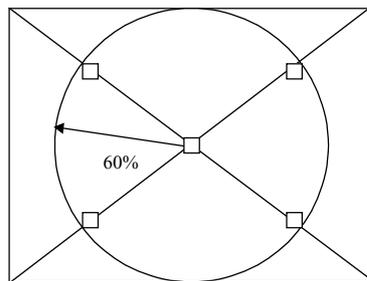

Fig. 9 Position of MTF measurement windows
- The MTF is measured in 5 Windows of interest as indicated in figure 9